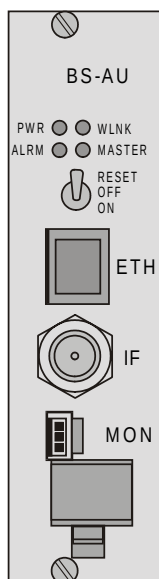

Figure 2-5. BS-AU Front panel
The BS-AU front panel is shown in Figure 2-5.
3. Connect the IF cable(s) to the connector(s) marked IF located on the front panel(s) of the BS-AU module(s) shown in Figure 2-5. The other side of the IF cable should already be connected to the outdoor unit.